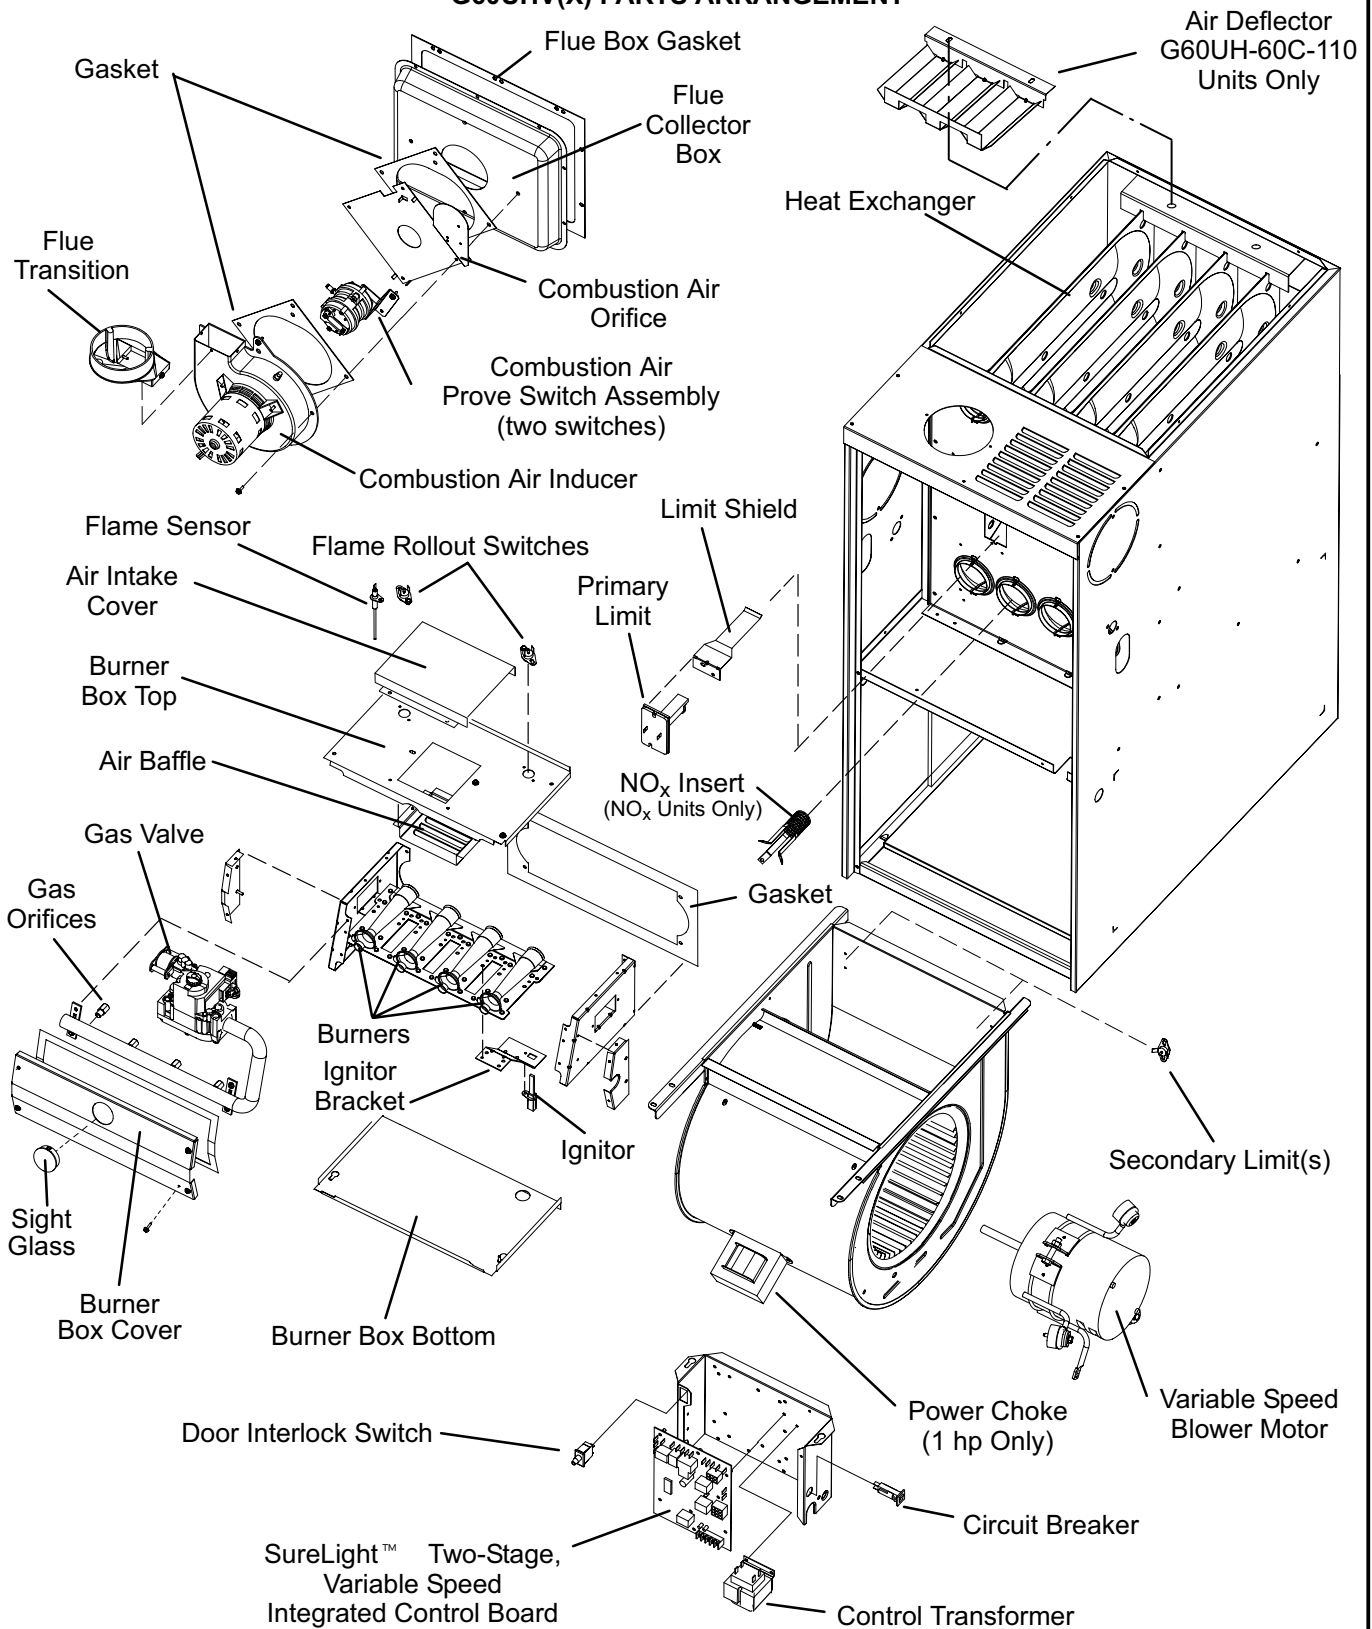
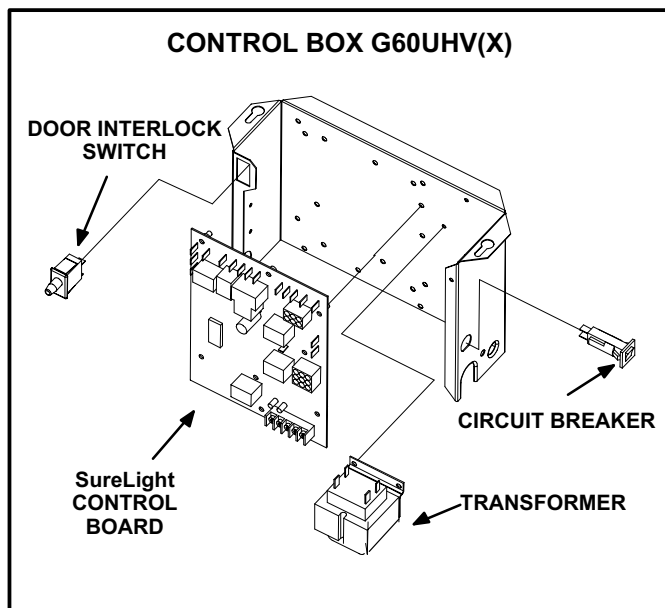

FIGURE 1
FIGURE 2
G60UHV(X) unit components are shown in figure 1. The gas valve, combustion air inducer and burners can be accessed by removing the burner access panel. Electrical components are in the control box (figure 2) found in the blower section.